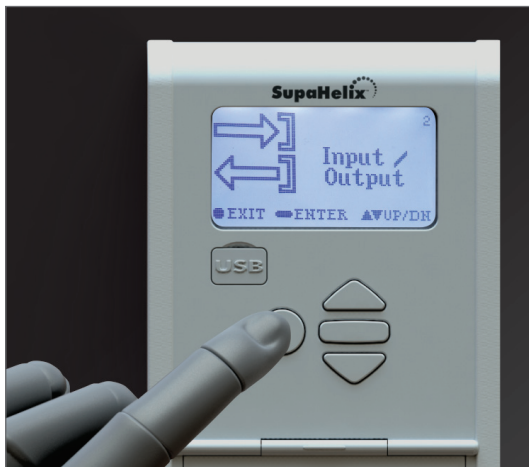

FIGURE 27.
- Each channel can be configured as either an input or an output. Inputs are used for monitoring purposes, for example to send users an SMS notification when an alarm is activated (when used together with the Optional GSM Module), or to log how many times a safe has been opened. Outputs are used for controlling electrical devices, for example to trigger a gate motor or to turn a pump on and off. The channel direction will be indicated visually on the display as shown in Figure 27